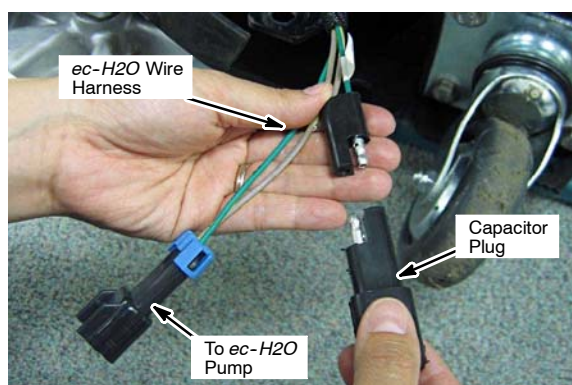

Fig. 37
5. Connect the capacitor plug [p/n 1040868] to the *ec-H2O* wire harness that was routed down to the scrub head area (Figure 37).